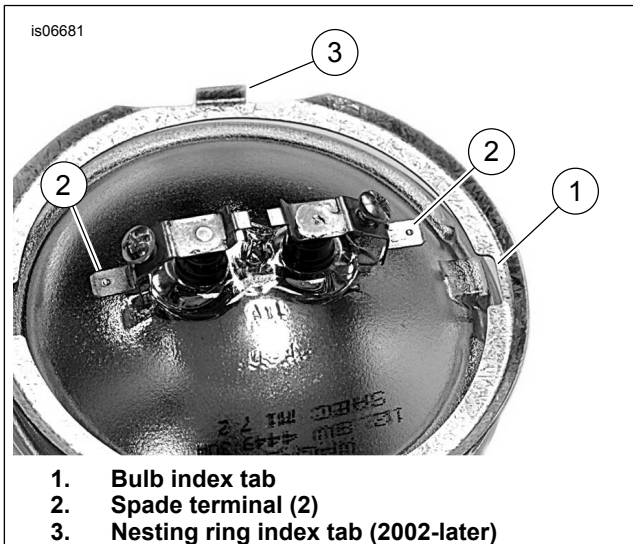

Figure 3. Auxiliary Lamp Bulb Terminals
8. See Figure 3. Place the inner nesting ring on the bulb. Connect the black wire to the bulb spade terminal next to the bulb indexing tab (1) on the bulb. Install the gray wire on the remaining spade terminal.